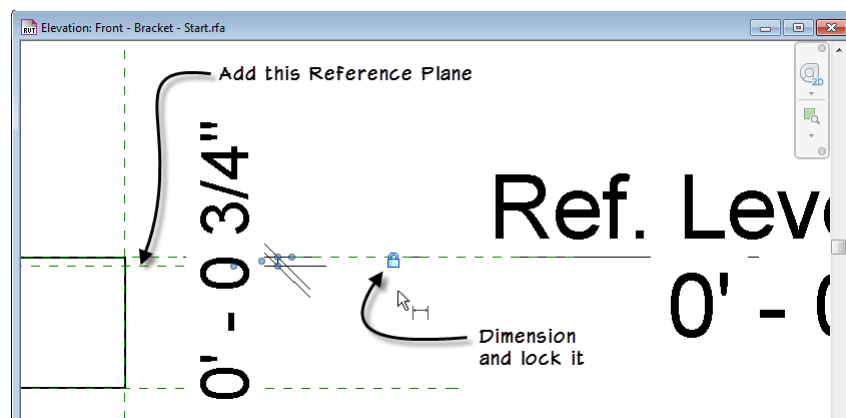

Figure 17
5. In the *Front* view, zoom in if necessary and add a new reference plane: $\frac{3}{4}$ " below the Ref. Level. Add a dimension between this one and the **Ref. Level** (not the box itself – use TAB) Instead of adding a parameter, simply lock it. This will make this dimension “fixed” making it a constraint (see Figure 17).